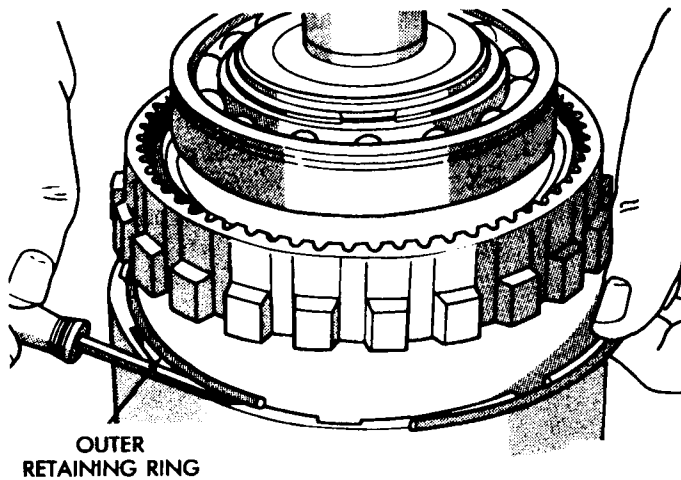

Fig. 46 Clutch Drum And Outer Retaining Ring Installation
(6) Align and install clutch drum on annulus gear (Fig. 46). Be sure drum is engaged in annulus gear lugs.
(7) Install clutch drum outer retaining ring (Fig. 46).